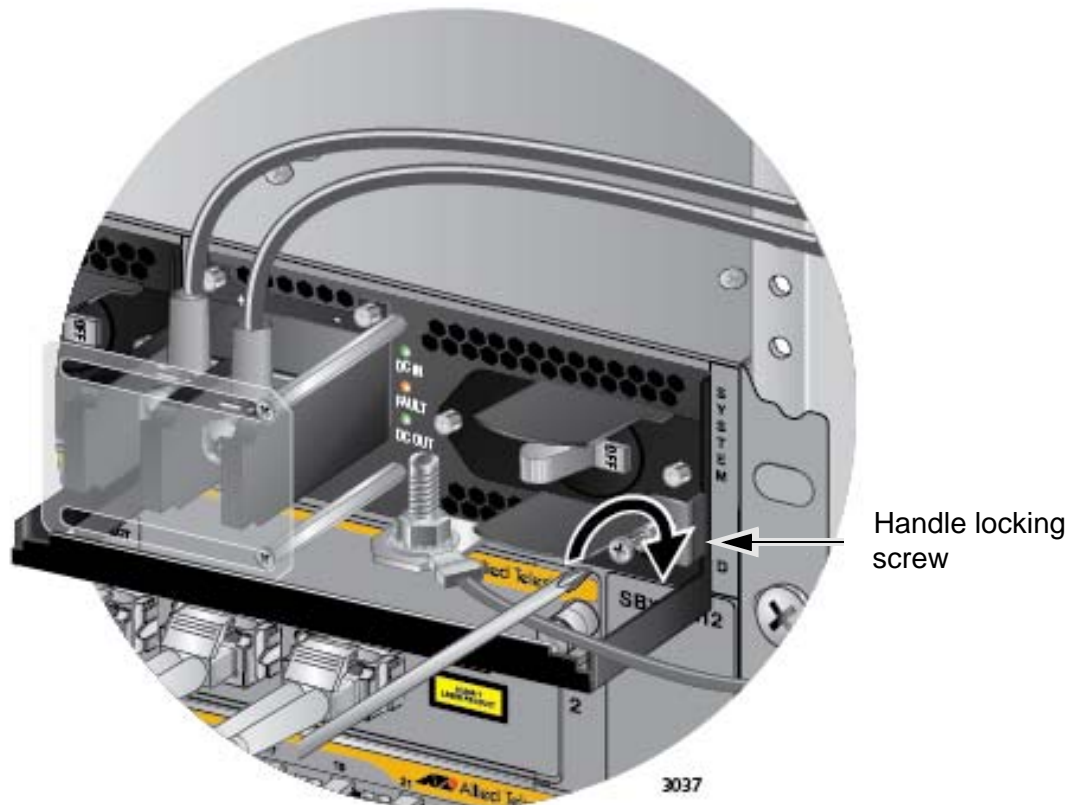

Figure 124. Tightening the Handle Locking Screw
9. With a #2 Phillips-head screwdriver, tighten the handle locking screw to secure the power supply to the chassis. See Figure 124 on page 186.
7. With a #2 Phillips-head screwdriver, tighten the handle locking screw to secure the power supply to the chassis. See Figure 124 on page 186.